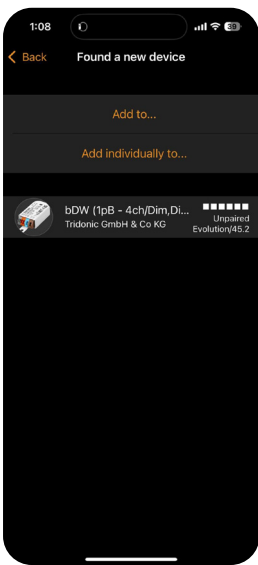

FIG. 9
4. Launch the Casambi app. The app will display **"Found a new device"** when it detects the G2 dimmer. Every Casambi dimmer requires assignment to a network. From the notification screen (Fig. 9), choose either **"Add to..."** (for existing networks) or **"Add individually to..."** (to create a new separate network) based on the customer's requirements.